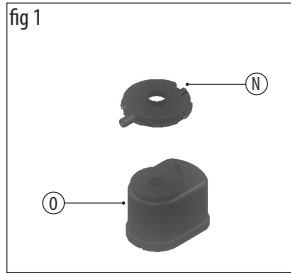
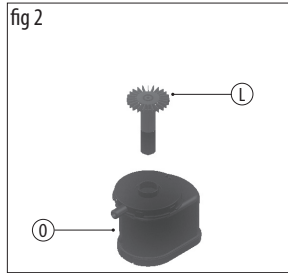

fig 2
fig 3
- Position the impeller (L) –fig.2 in the motor (O) –fig.3